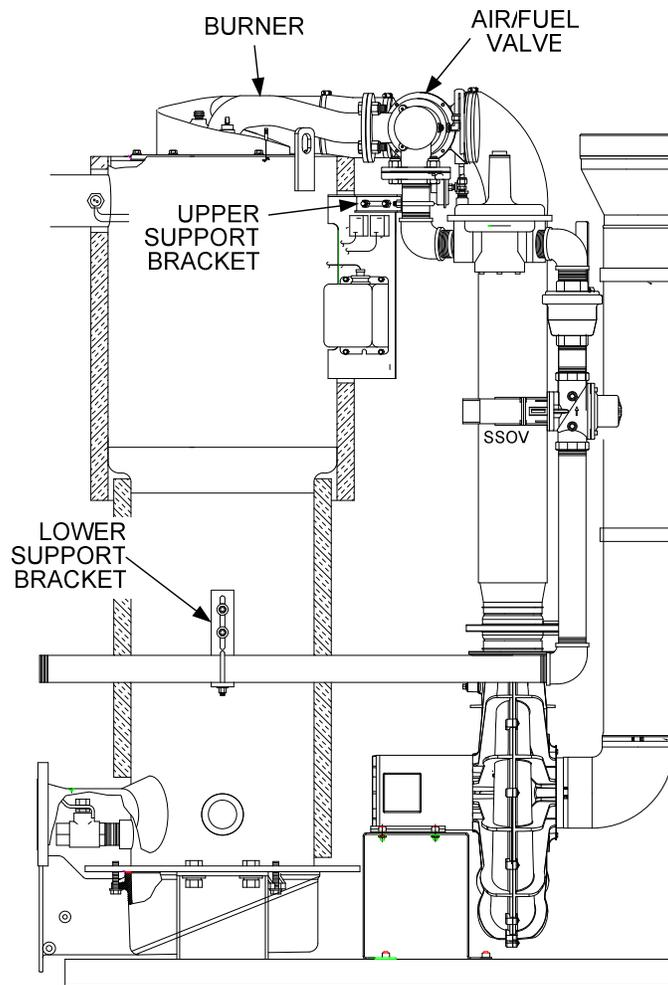

Figure 6. Gas Train Support Bracket Locations
12. While observing the above CAUTION, ensure that the gas inlet pipe is properly aligned with the four bolt holes on the gas outlet flange of the air/fuel valve. When properly aligned, the four 5/8-11 bolts can be easily inserted in the bolt holes. If gas train realignment is required, loosen the support brackets/U-bolts at the upper and lower portions of the gas train as shown in Figure 6.